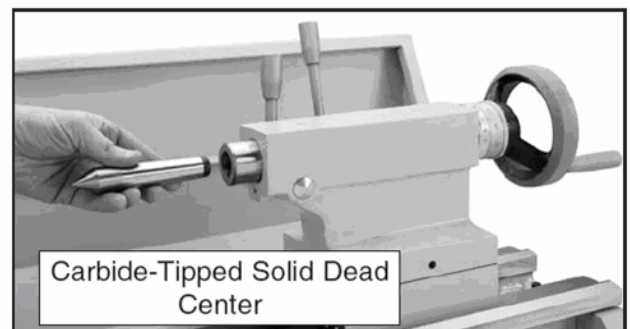

Figure 26
2. Feed the quill out about 25mm (1"), wipe clean and insert the center into the quill bore (see **Figure 26**). To help prevent wear, place a dab of grease on the point of the center.